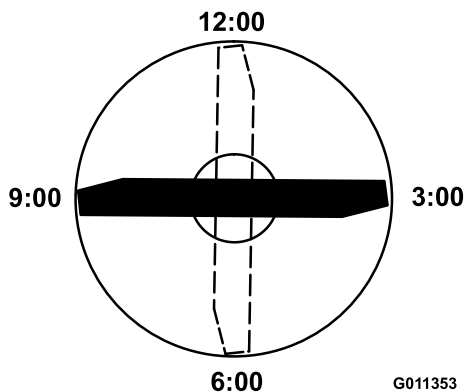

Figure 122
4. Position the cutting edge of the marked end of the blade at 12 o'clock (straight ahead in the direction of mowing) (Figure 122) and measure height from table to cutting edge of blade.
5. Rotate the marked end of the blade to the 3 and 9 o'clock positions (Figure 122) and measure the heights.